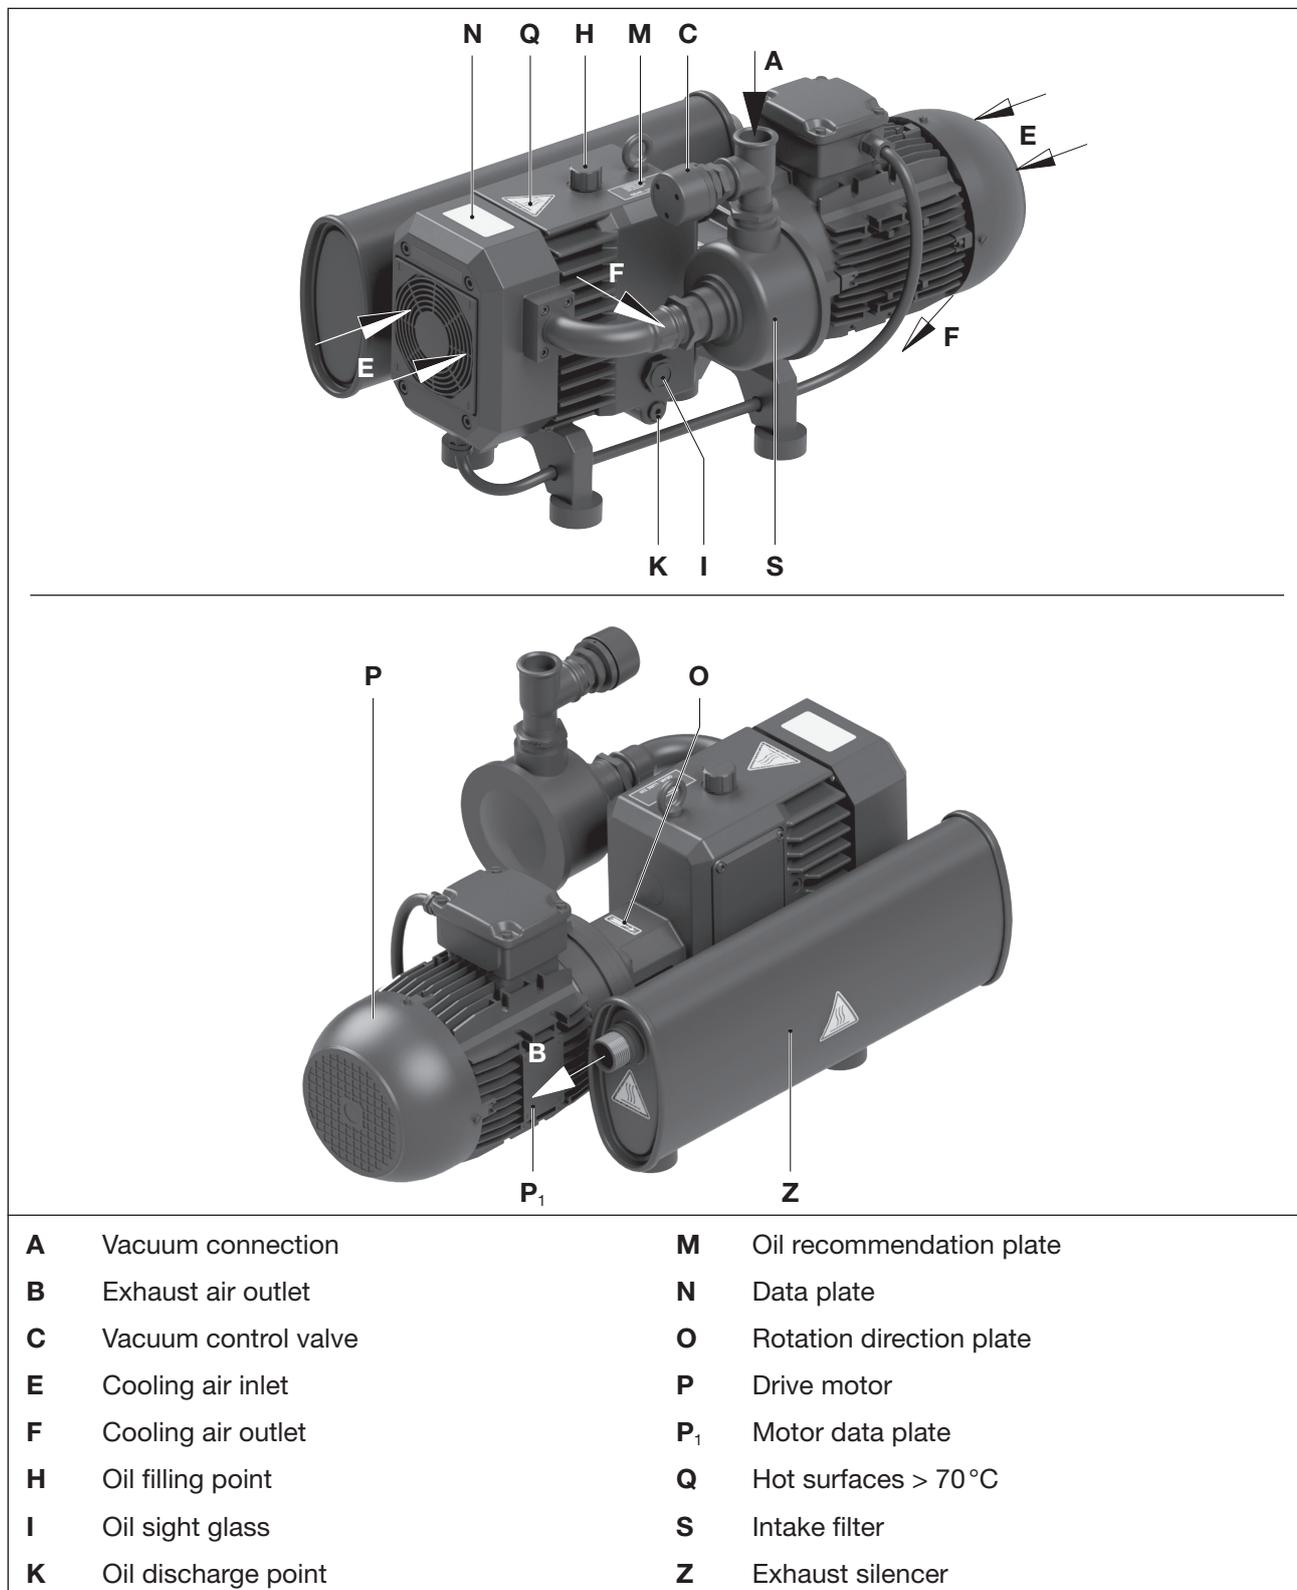
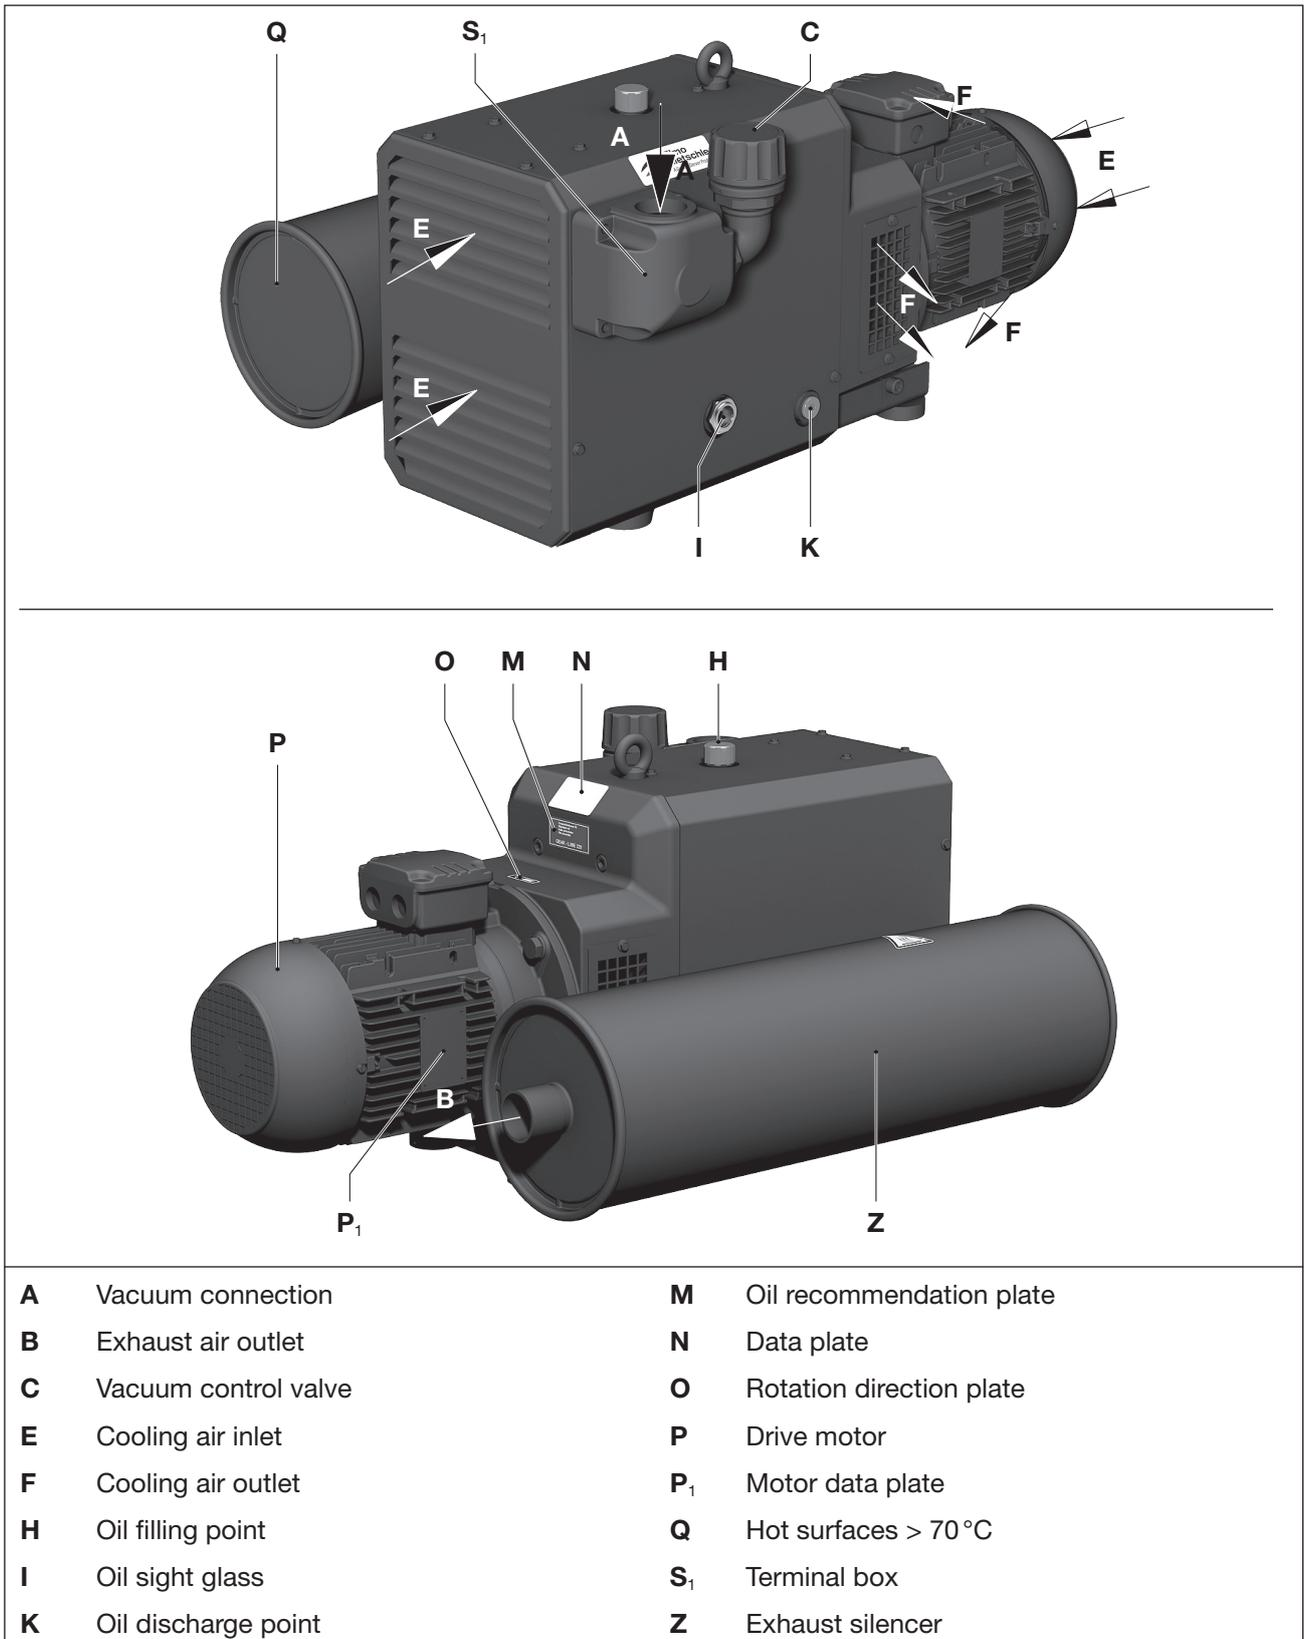
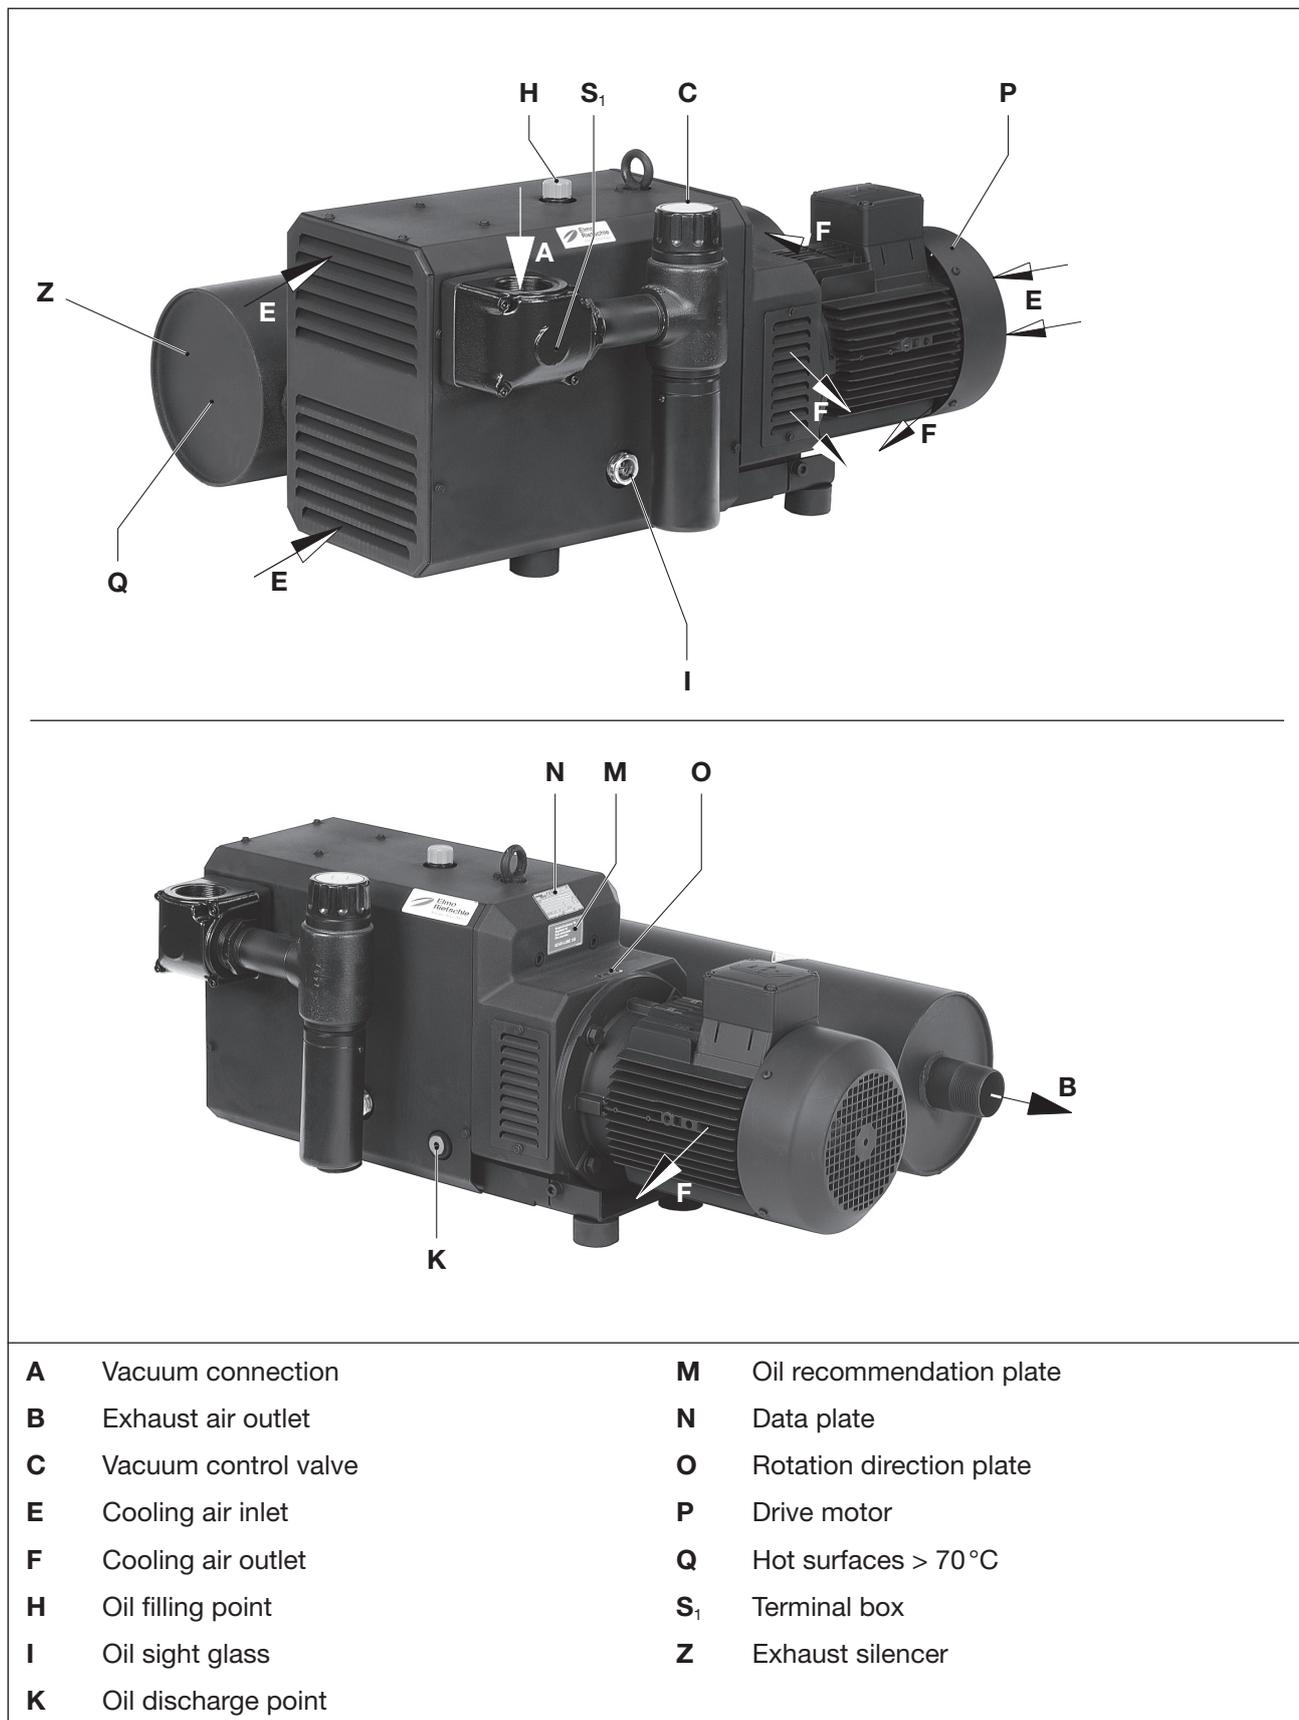

Fig. 2 Vacuum pump C-VLR 60
Fig. 3 Vacuum pump C-VLR 100 | 150
Fig. 4 Vacuum pump C-VLR 251
With the vacuum control valve (Fig. 2/C to Fig. 4/C) a desired vacuum can be pre-set and simultaneously it serves as relief valve.
- Oil filling point (Fig. 2/H, Fig. 4/H), oil sight glasses (Fig. 2/I, Fig. 4/I) and oil drains (Fig. 2/K, Fig. 4/K) must be readily accessible.
- For maintenance work, before the inlet filter (Fig. 2/S) and the intake silencer (Fig. 3/S₁, Fig. 4/S₁) provide for a **space of at least 40 cm**.
- Connect the pipes with the vacuum connection (Fig. 2/A to Fig. 4/A).
- The exhausted air can be blown out through the exhaust air outlet (Fig. 2/B to Fig. 4/B) on the exhaust silencer (Fig. 2/Z to Fig. 4/Z) or conducted away using a hose or pipeline.
Vacuum can be pre-set by turning the control knob (Fig. 2/ C to Fig. 4/C) as shown on the symbol fitted to the button.
- a) Check the lubricating oil level through the oil sight glass (Fig. 2/I to Fig. 4/I) and top up, if necessary.